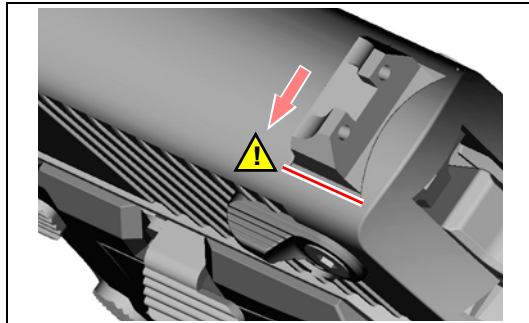

Fig. 12
- The rear sight must not exceed the edge shown in Fig. 12.